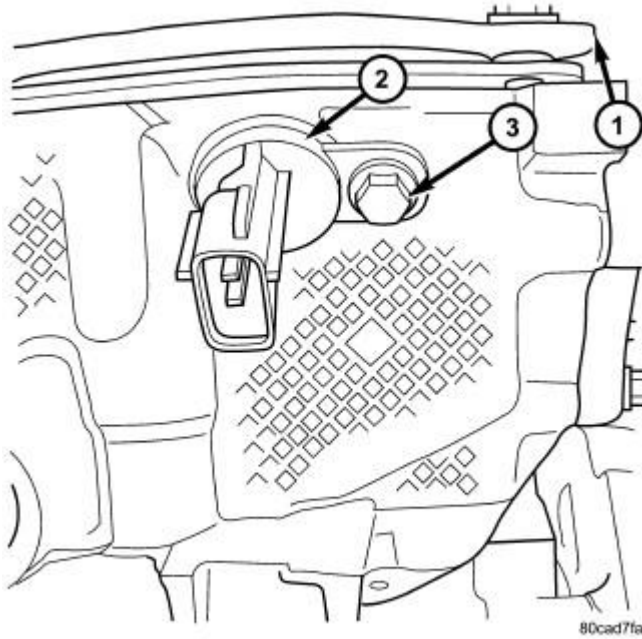

Fig. 163: Cylinder Head, Camshaft Position Sensor & Bolt
12. Remove camshaft position sensor bolt (3) and remove sensor (2). Refer to **Fig. 163**.